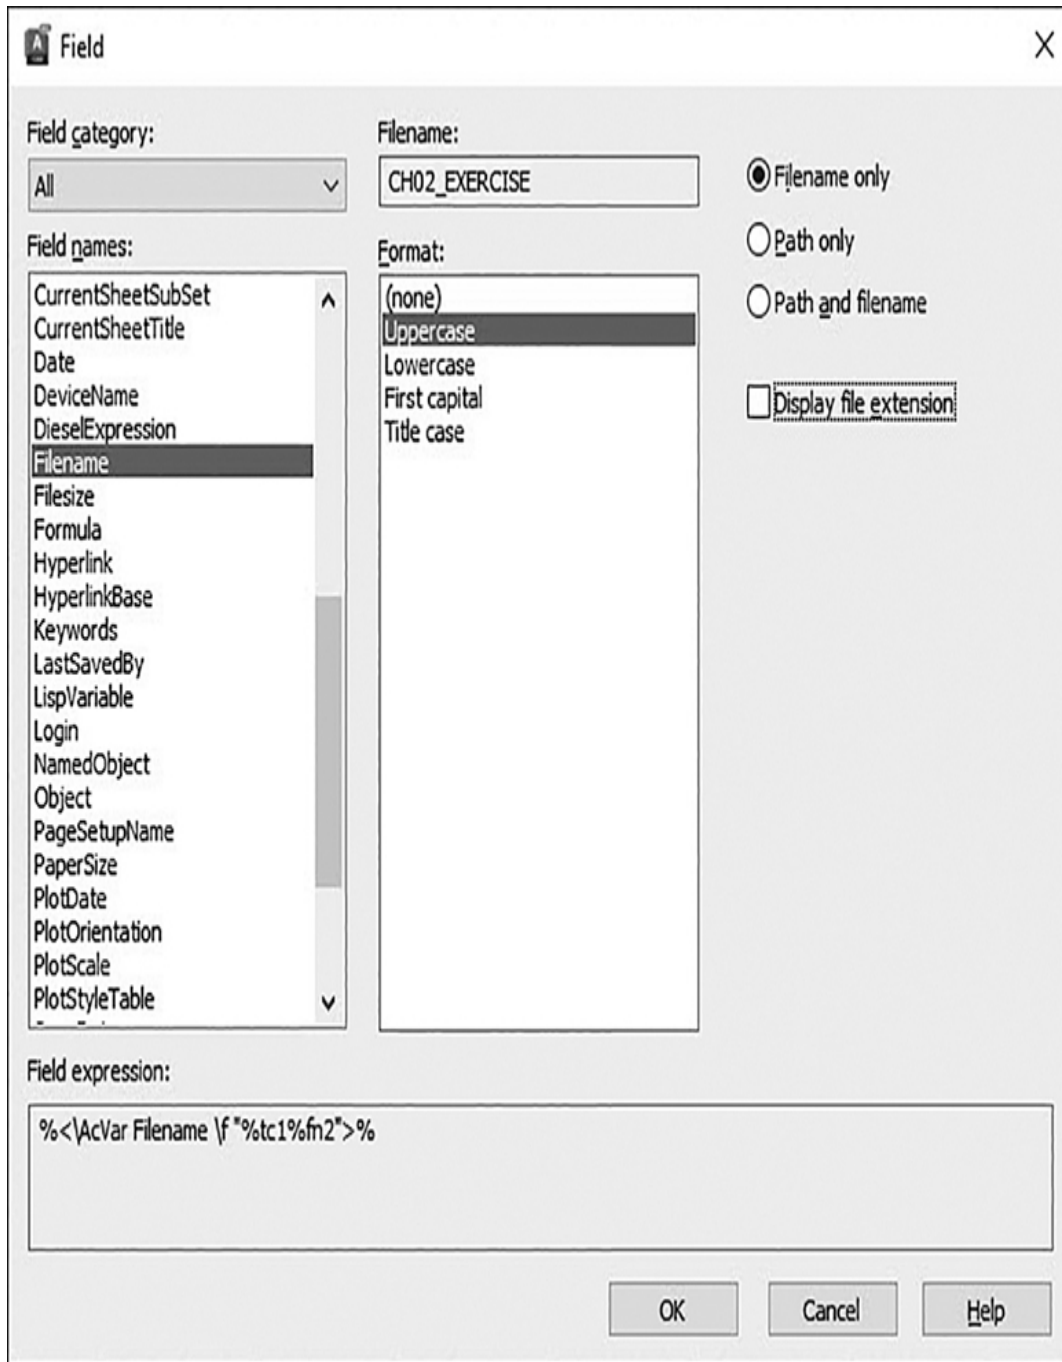

Figure 2-56
- 3 Choose **Field** from the **Insert** panel. This displays the **Field** dialog box (see Figure 2-56).
- 6** Select the **Filename only** option and uncheck the box on the **Display file extension** setting (see Figure 2-56).
As you can see from the **Field** dialog box (see Figure 2-56), there are a number of predefined fields. Using field names is a great time-saver. By default, the field is updated every time you regenerate, save, or plot your drawing. So,